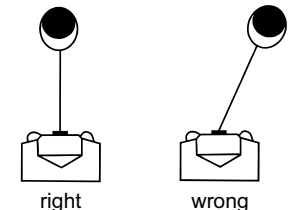

Figure 2
5. Avoid continuous pulls from extreme angles because this will cause the wire rope to pile up on one end of the drum (see figure 2) and damage the wire rope.